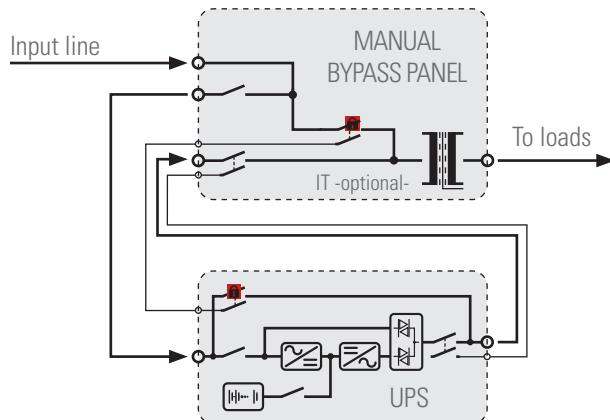

Fig. 1. Connection of the standard manual bypass panel to the UPS.
- Standard or basic (Fig. 1). With a common input for the supply of the UPS (rectifier-PFC) and the static bypass line.